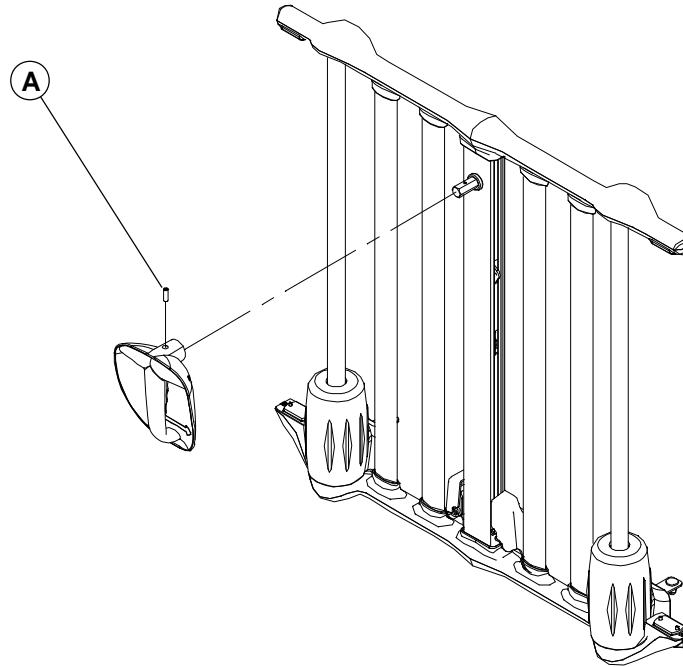

Figure 3.14A
2. Using a 3/32" Allen Key, remove the set screw (A, fig 3.14A, page 31) holding the handle assembly to the shaft. Remove the handle assembly.
3. Using a Phillips screwdriver, remove the eight screws (B) holding the rail upper plastic cover (C) to its lower counterpart (D). If working on a siderail, open the access doors to reach the last screw on each end of the lower plastic cover. Note that on a siderail with fixed access doors, these two last screws are not present.